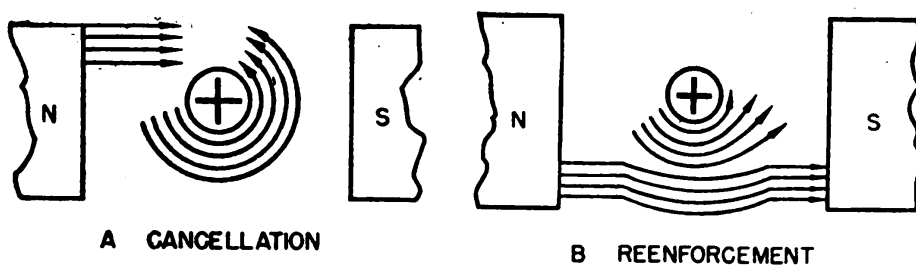

Figure 114.—Conductor's and magnet's fields.
ducing a STRONG resultant field or else they must CANCEL each other producing a WEAK resultant field. A of figure 114 shows what happens above the wire. The two magnetic fields are meeting head-on. It's like two autos meeting head-on—the
*B* of figure 114 shows what happens below the wire. The two magnetic fields are blending together. It's like two autos meeting front to rear—their forces add. This addition of flux lines results in a STRONG and BENT field BELOW the conductor.